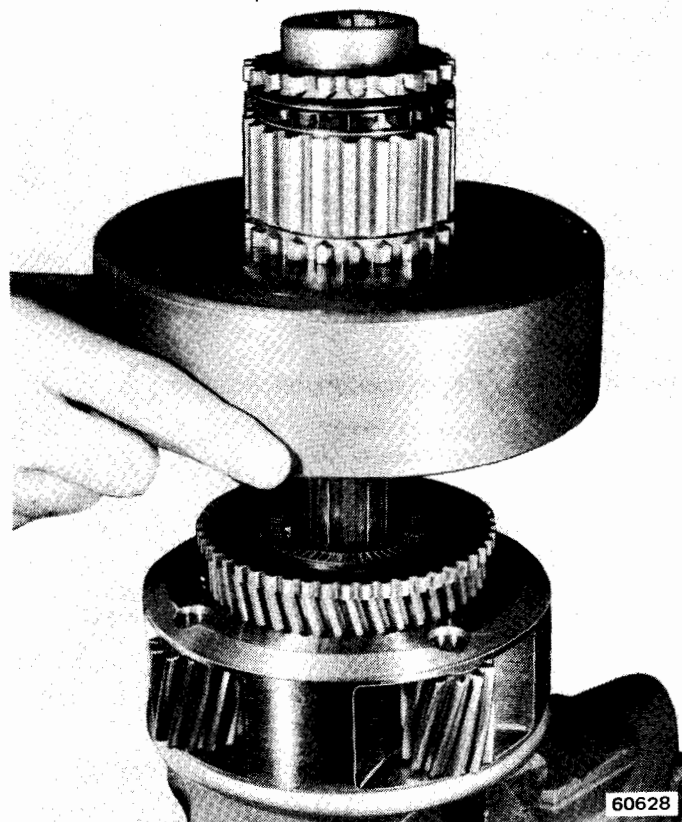

Fig. 8-27 Removing Sleeve, Hubs, and Ring Gear Assembly
(7) Remove direct drive sleeve and needle bearing, shift collar hub and needle bearing, reduction collar hub, and ring gear and needle bearings as an assembly (fig. 8-27).